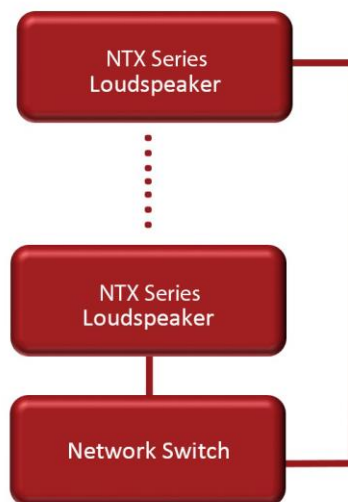

Figure 5 - Diagram of a network loop. **Don't do this.**
- Network loops are caused when more than one loudspeaker in a chain is connected to the network switch or router. This will cause a series of network issues that can negatively affect communication and audio quality and should always be avoided. Figure 5 illustrates a network loop.